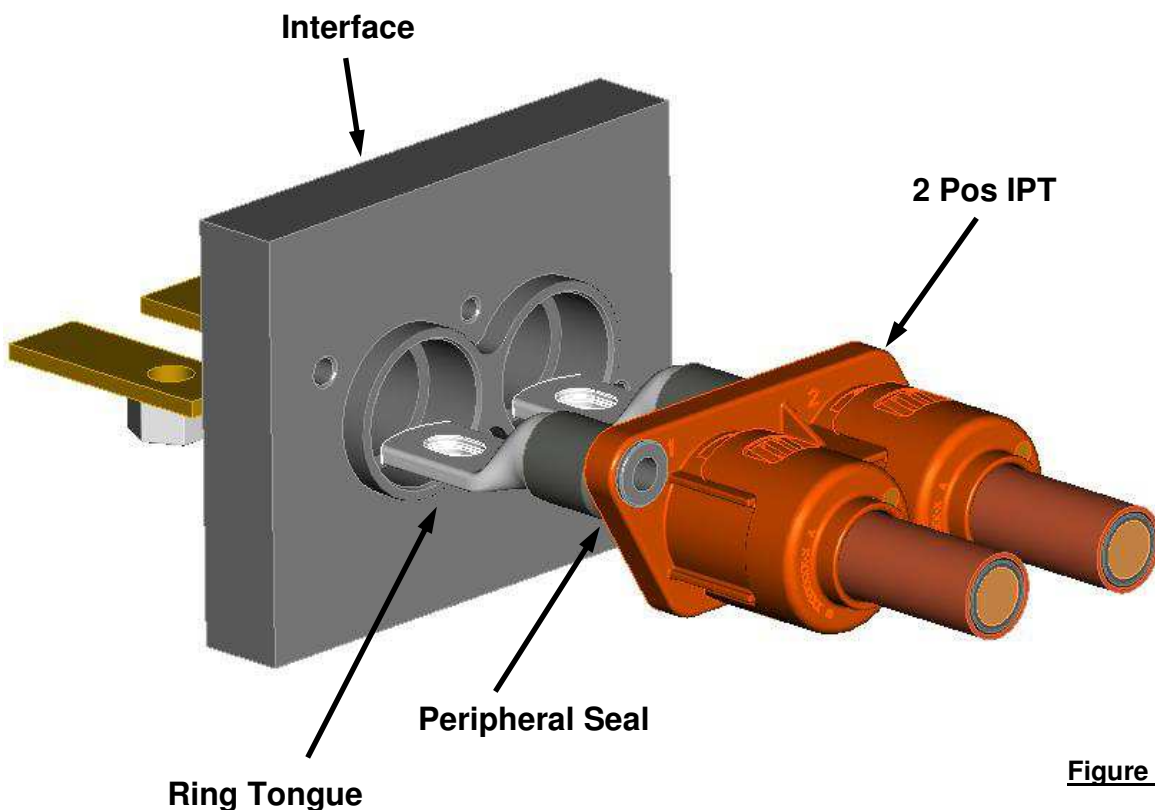

Figure 31
**It must be assured that the peripheral seals are not damaged during the plug operation. A minimum deviation of the interface and product axle during feed in of the housing has to be assured (Figure 31).**